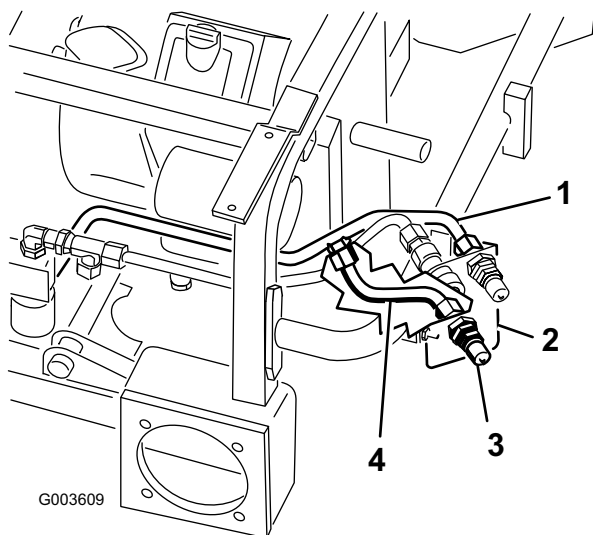

Figure 16
7. Loosely install hydraulic line number 5 to hydraulic line number 1 and the lower male coupler (Figure 16).